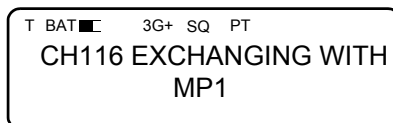

Figure 3-39. LQA Exchange
- a. Place the AN/PRC-150(C) in 3G+ radio mode. Refer to Paragraph 3.19.2.
- f. Use the ▲▼ keys to select the address of the station to exchange scores with, and then press [ENT]. An exchange will be performed with the selected station on each channel in the current CHANNEL PLAN. Both stations update their scores for each other on all channels. See Figure 3-39.